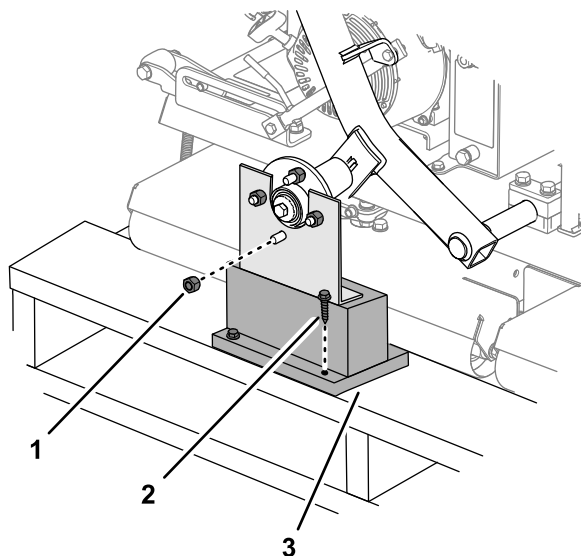

Figure 3
1. Remove the lug nuts securing the wheel hubs to the shipping bracket (Figure 3).
2. Remove the other lug nut threaded onto the wheel-hub stud (Figure 3).
3. Remove the lag bolts that secure the shipping brackets to the pallet, and remove the bracket (Figure 3).